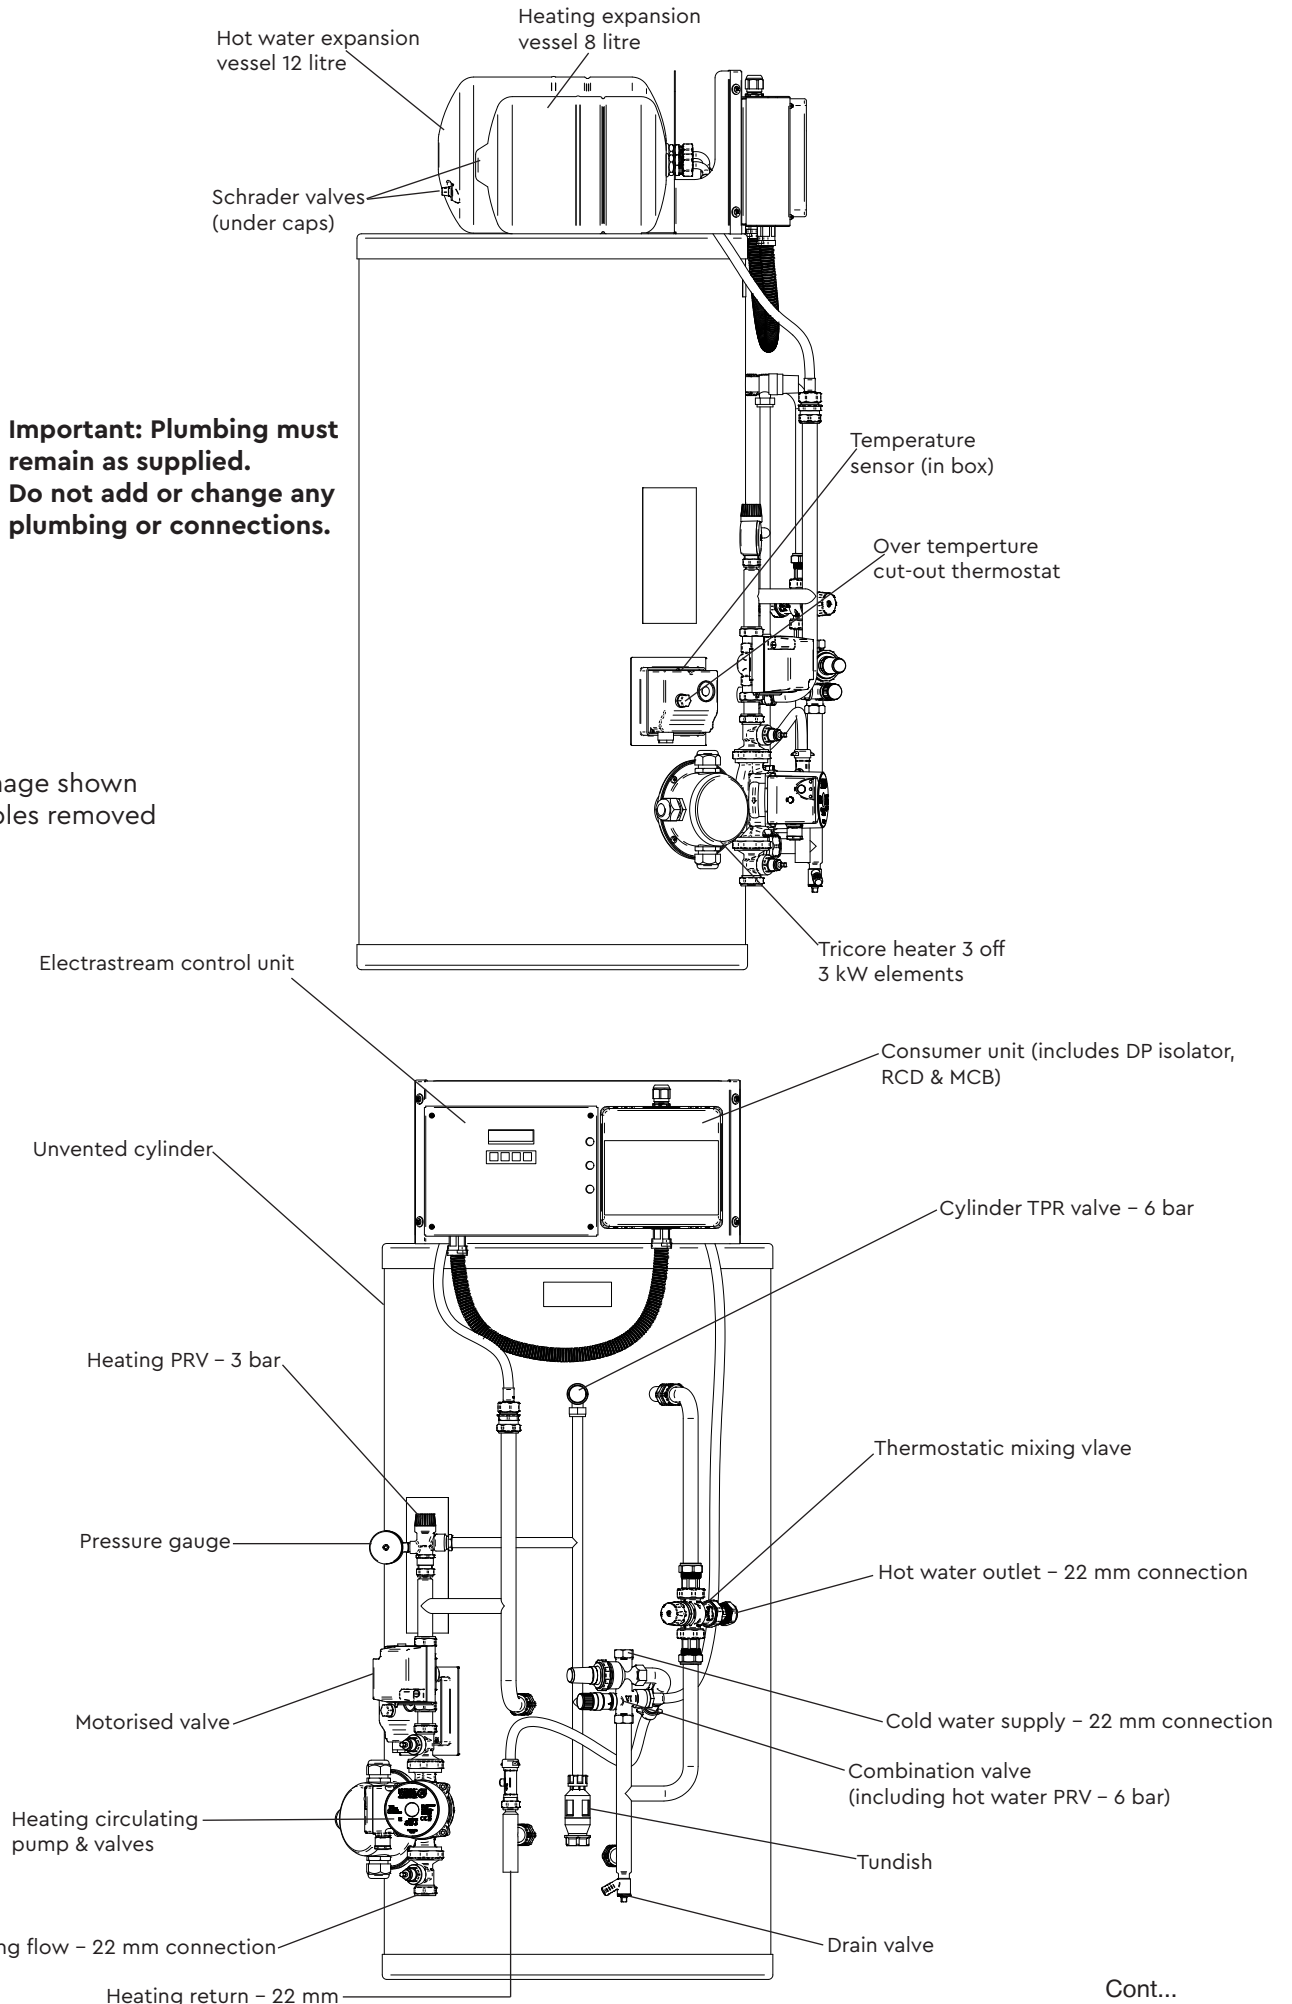

Fig. 4
- 1.8 **Drain valve:** A drain valve is incorporated onto the pipework to be used to drain the cylinder, when required during commissioning or maintenance (Fig. 4) to allow for maintenance work.